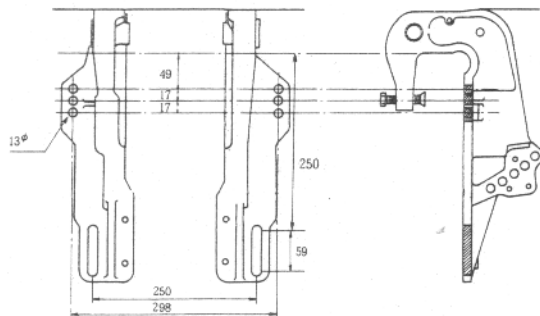

Fig. 4 Bracket bolt hole dimension (m/m)
b. Dimension drawing of bracket mounting holes (Fig. 4)